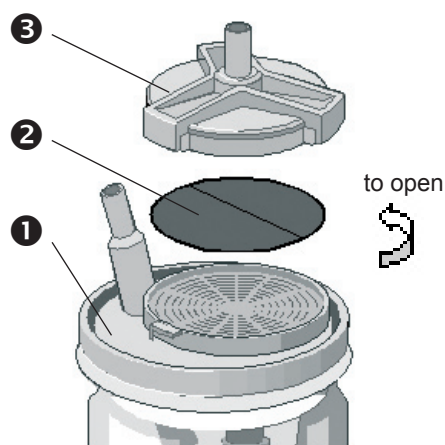

Fig. 6. Disposable bacterial filter plate
Using the cleaning agent Neodisher AN (manufactured by Dr. Weigert, Hamburg) cleaning in a special dish-washer is also possible. The disposable bacterial filter plate (fig. 6, page 13) must be removed before cleaning.
- The collection jar lid contains a disposable bacterial filter plate (②, fig. 6), which protects the interior of the unit against contamination and stops fluids due to its hydrophobic attribute. Together with the mechanical overflow safety, this filter avoids the sucking-in of secretion into the interior and, thus, the failure of the unit. The basic element of the filter material is a porous teflon layer which is put on a supporting material (polyester fleece). The pore size of the teflon material is 1µm.